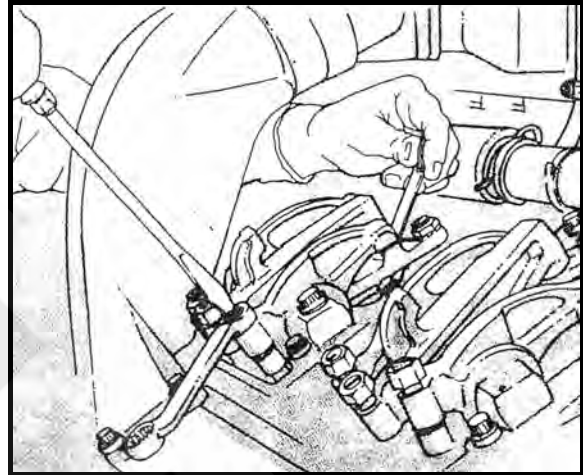

Fig. 2-29 Adjust valve clearance
2. Turn the adjusting screw down until the rocker lever just touches the feeler gauge (Fig. 2-29); lock the adjusting screw in this position with the locknut.